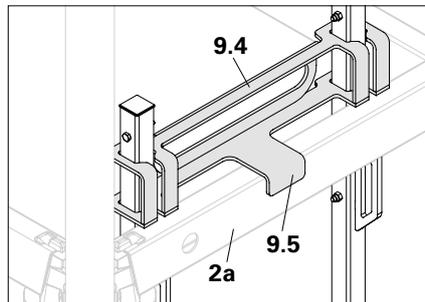

Fig. A1.11a
1. 7. Pull yellow bar (9.4) upwards and suspend yellow lug (9.5) above the top Ledger. (Fig. A1.11a)
- Is the yellow lug (9.5) positioned against the Ledger? (Fig. A1.11a)